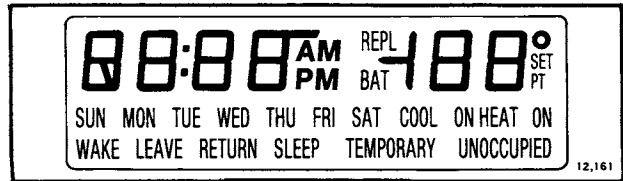

FIG. 10—ALL SEGMENTS ON DISPLAY.
1. Press AHEAD and BACK keys at the same time. While holding keys down, all segments of the display should be on (see Fig. 10).